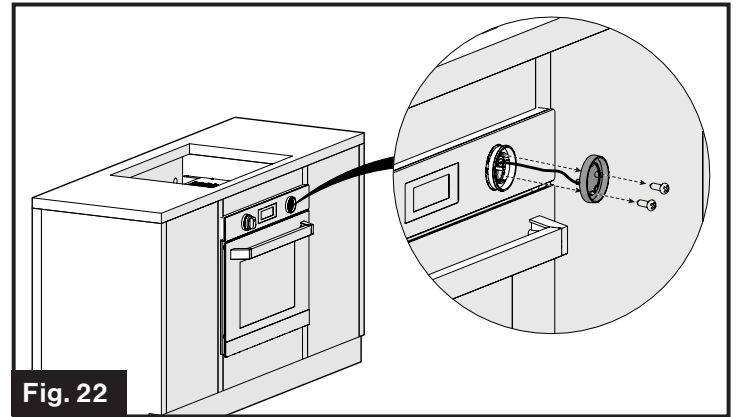

Fig. 22
2. Remove the two screws holding the LED light using a Phillips screwdriver. (Fig. 22)